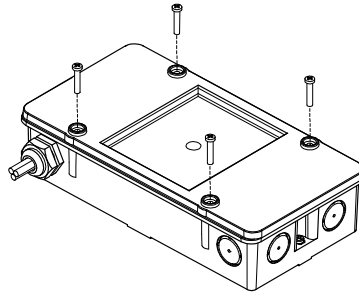

Fig. 6
- Open the housing (Fig. 6).
- Insert the seal and fix the lid additionally with four screws (Fig. 6). (only this way is IP65 protection guaranteed)